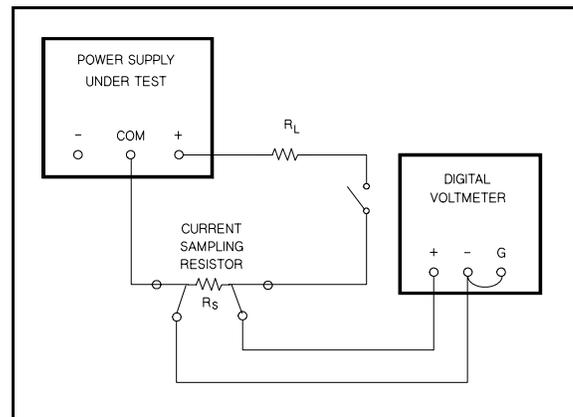

Figure A-5. Output Current, Test Set UP
- Connect the test setup shown Figure A-5 to the +6V output. Make the total resistance of R_L and the current sampling resistor equal to 2.4 Ω to permit operating the output at full load. R_L should have a power rating of at least 20 watts.
- Check the rated output and ammeter accuracy of the +20V and -20V supplies similarly by connecting the test setup of Figure A-5 to each output in turn. For each 20V supply: make the total resistance of R_L and the current sampling resistor 40 Ω , set the $\pm 20\text{V}$ VOLTAGE control for a current indication on the DVM of 0.5 A, check that the panel meter indication is within $\pm(0.5\% + 2 \text{ counts})$ of 0.5 A (0.48A to 0.52A).
- l. Connect the test setup shown in Figure A-5 to the +20V output. Substitute a short for R_L and leave the load circuit switch open.
- p. Connect the test setup shown in Figure A-5 to the +6V output. Close the switch, set the total resistance of R_L and the current sampling resistor to an initial value of 2.4Ω or greater, and set the output voltage to 6 volts.